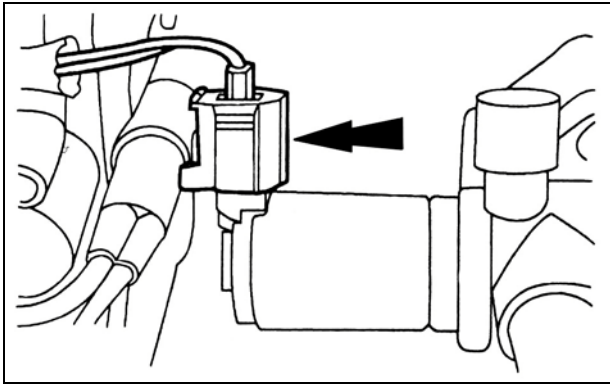

Figure 11
15. Disconnect the idle air valve electrical connector (Figure 11).